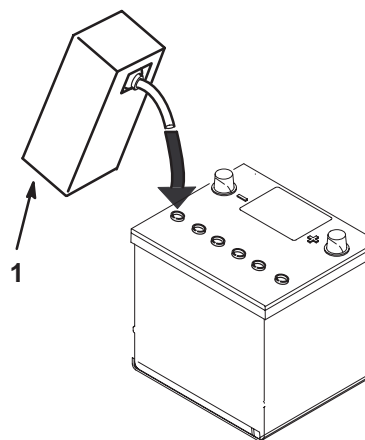

Figure 11
4. Allow approximately 20 to 30 minutes for the electrolyte to soak into the plates. Refill as necessary to bring the electrolyte to within about 1/4 inch (6 mm) of the bottom of the fill well (Fig. 11).